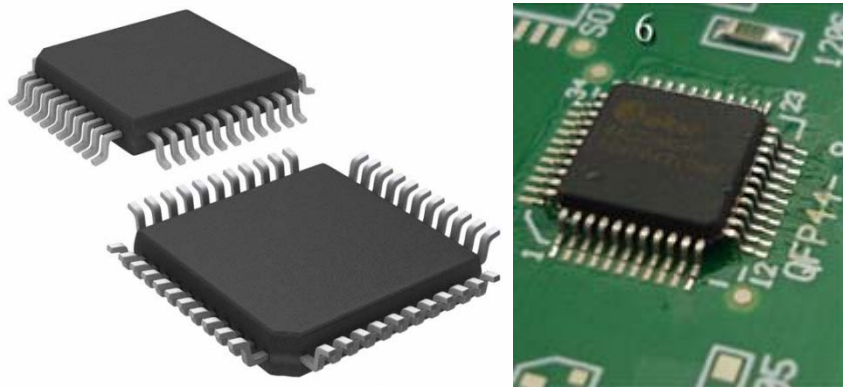

Figure Q6[a]
- Q6. [a] Refer to Figure Q6[a]. Identify the type of package of this electronic component and briefly describe the processes involved in the manufacturing of this package.**
- [b] If the package in Figure Q6[a] is a component of a system board, explain the process involved in mounting this package onto a printed circuit board (PCB) of the system board.**